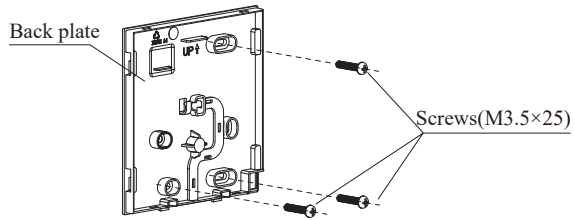

Fig 3-3
- For exposed mounting, fasten the back plate on the wall with the 3 screws (M3.5×25) and plugs. (Fig.3-3)